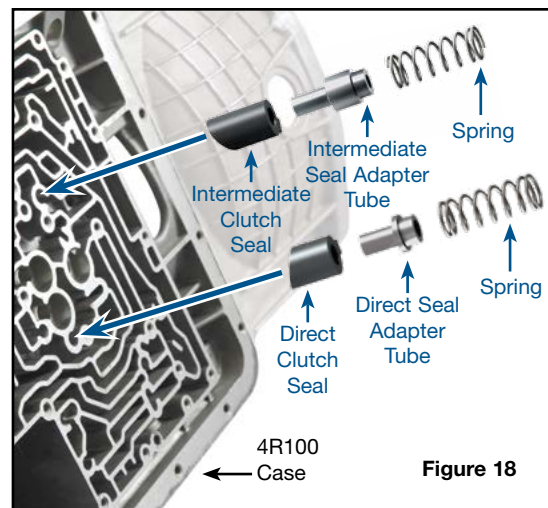

Figure 18
4. Center Support Seal Kit Installation (Figure 18)